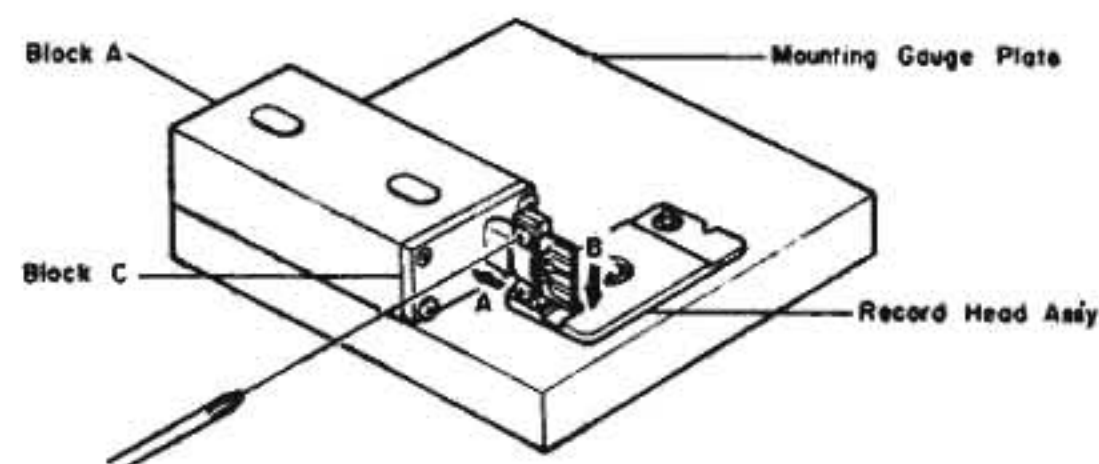

Fig. 2.17
- (5) Remove the Block B from the Mounting Gauge Plate.
- (6) As shown in Fig. 2.17, mount the R-8L record head assembly onto the Mounting Gauge Plate, then check the location of the R-8L record head surface. (If record head touches the Block C, loosen 2 pcs. of screws that assemble record head and record head plate, then place the R-8L record head assembly onto the Plate.)
- (7) Remove the R-8L record head assembly from the Mounting Gauge Plate.
- (8) Readjustment of Record Head Mounting Gauge M-9048 (DA09048A)
- (9) Remove the Block B from the Mounting Gauge Plate.
- (10) Mount the R-8L record head assembly onto the Mounting Gauge Plate.
- (11) As shown in Fig. 2.17, loosen 2 pcs. of screws that assemble record head and record head plate. As the location of the Block A is secured by the item (8)-(c), push the record head to the directions A and B, then tighten 2 pcs. of screws.
- (12) Check to insure freedom from gap between the Block C and record head surface, then tighten the 2 pcs. of screws on the record head assembly with lock tight paint.
- (13) Remove the R-8L record head assembly from the Mounting Gauge Plate.
- (14) Assemble the record head assembly to the head mount base assembly.
- (15) Assemble the head mount base assembly to the mechanism assembly.
- (16) Check the record head stroke.